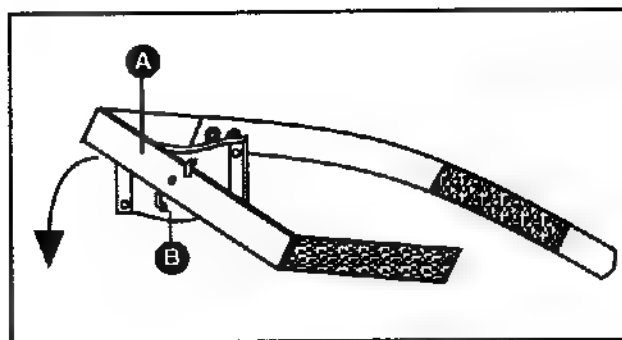

Figure 1-30
1. Align the adapter probe clip (A) with slots and pin on adapter probe (B), then turn counter-clockwise to secure in place. See Figure 1-30.